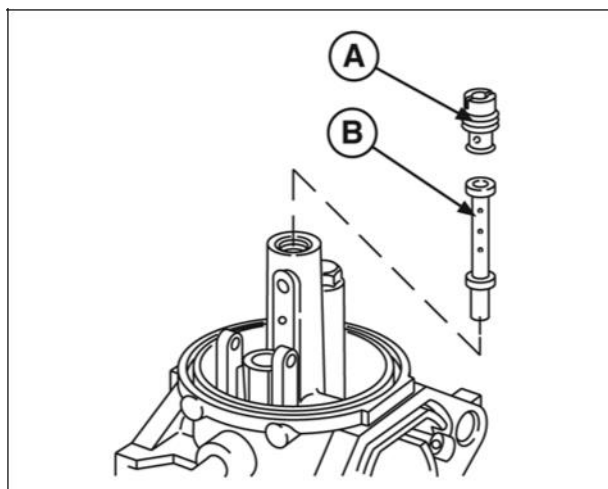

Figure 8
4. Remove fixed high speed jet (A, Figure 8).
5. Remove emulsion tube (B).